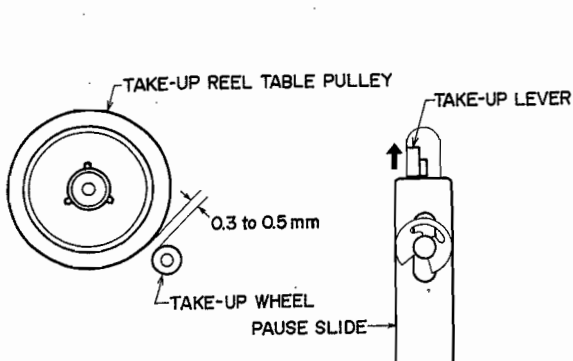

Fig. 12
3. ADJUSTMENT OF GAP BETWEEN TAKE-UP REEL TABLE PULLEY AND TAKE-UP WHEEL AT PAUSE MODE (See Fig. 12)
Bend the take-up lever in the direction of the arrow in Fig. 12 so that when the machine is set to pause from playback mode, the take-up wheel completely separates from take-up reel table pulley and the gap width is from 0.3 to 0.5 mm.